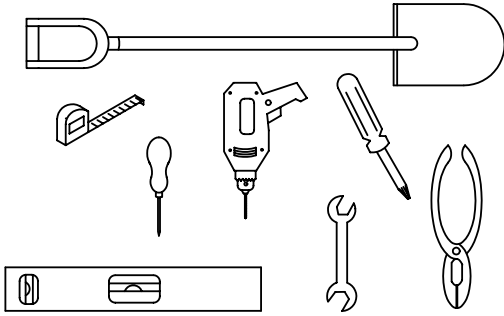

FIG. 1
- 1. WEATHER WARNING ! DO NOT ERECT YOUR BUILDING ON A WINDY DAY. ANY BUILDING LEFT PARTIALLY CONSTRUCTED MAY BE SERIOUSLY DAMAGED (FIG.1).**
- 3. ALL ASSEMBLY OPERATIONS MUST TAKE PLACE ON A COMPLETELY LEVEL SURFACE (FIG. 1)**
- (FIG. 1).
- 3. TOUTES LES OPÉRATIONS DE MONTAGE DOIVENT ÊTRE RÉALISÉES SUR UNE SURFACE PLANE (fig 1).**